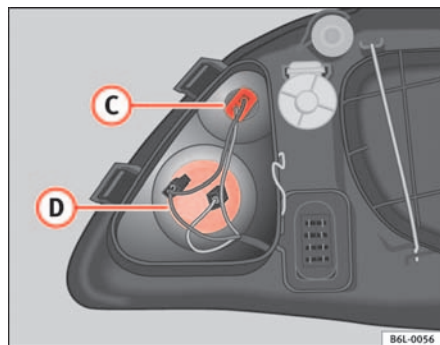

Fig. 145 Side lights
- Pull on the cables to release the lamp holder from the casing (C) ⇒ fig. 145.